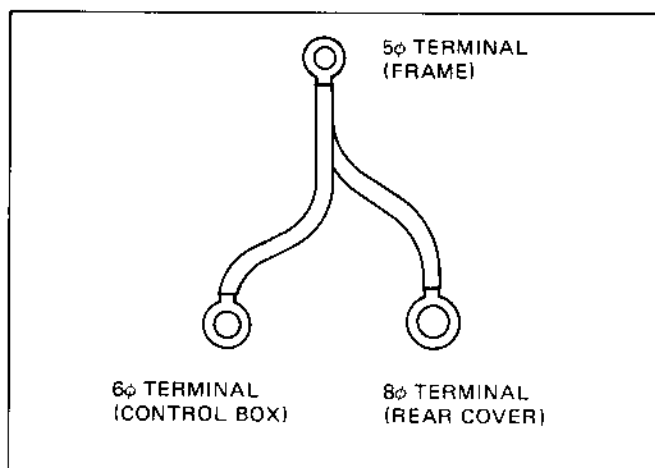

Fig. 10-33
- (2) Attach the 5 ϕ terminal of grounding wires (green/yellow) to the unpainted thread hole of the frame base plate using a 5 mm brass screw. (See Fig. 10-33.)